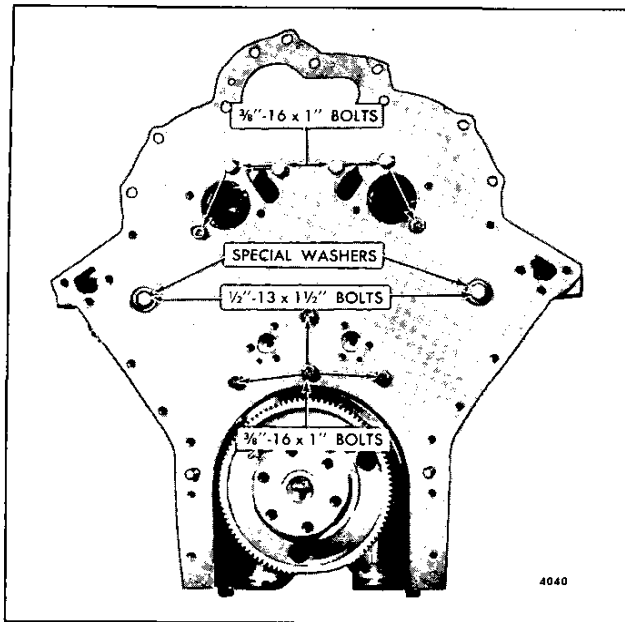

Fig. 3 - Cylinder Block Rear End Plate Mounting
5. On a V-type engine, refer to Fig. 3 for the location and install the 3/8"-16 x 1" bolts with lock washers. Also, install the two special washers and two 1/2"-13 x 1-1/2" bolts as shown when the fuel pump is driven off the camshaft, or one special washer and bolt when the fuel pump is driven by the accessory gear. Tighten the 3/8"-16 bolts to 30-35 lb-ft (41-47 N·m) torque and the 1/2"-13 bolts to 71-75 lb-ft (96-102 N·m) torque.